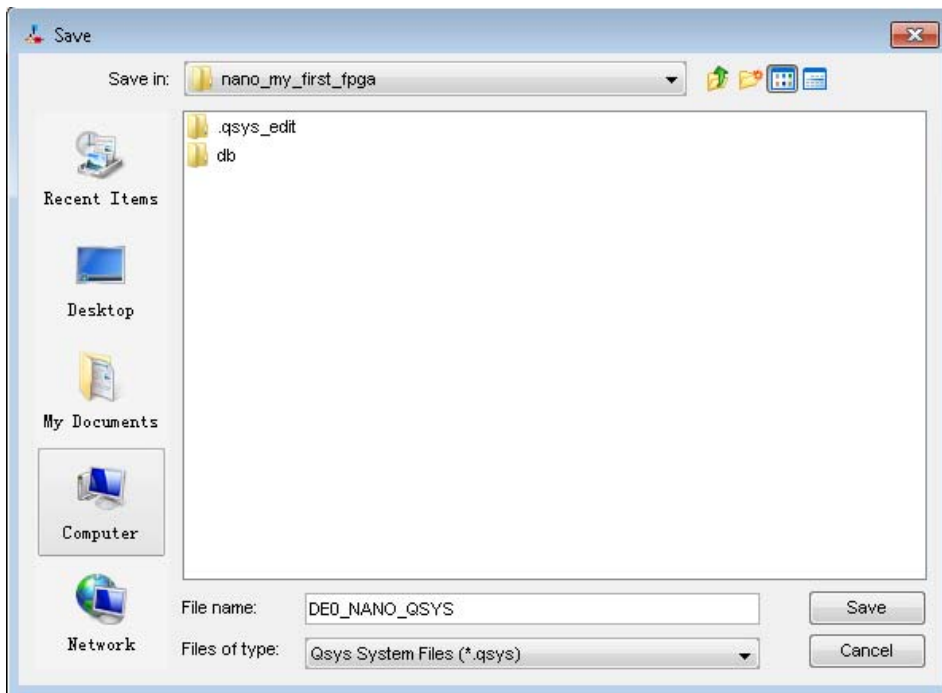
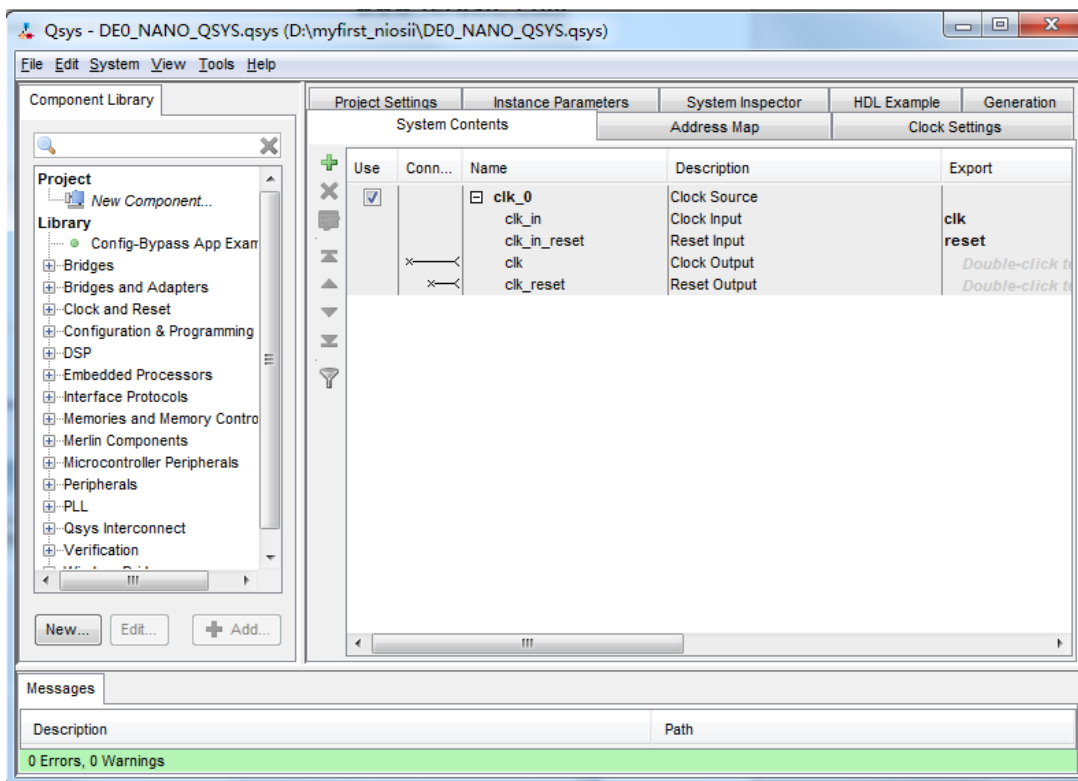

Figure 1-12 Rename System
Figure 1-13 A New System
7. Rename System Name as shown in Figure 1-12. Click Save and you will see a window as shown in Figure 1-13.